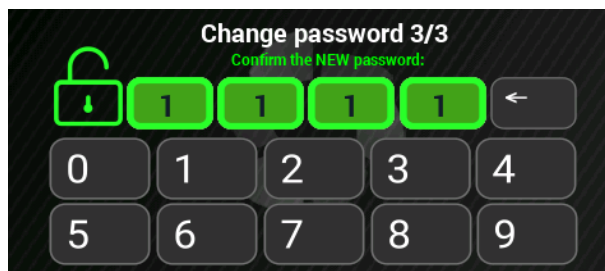

Figure 16-21: password change confirmed.
- The last screen is the confirmation that the new password has been entered correctly (**fig.16-21**).